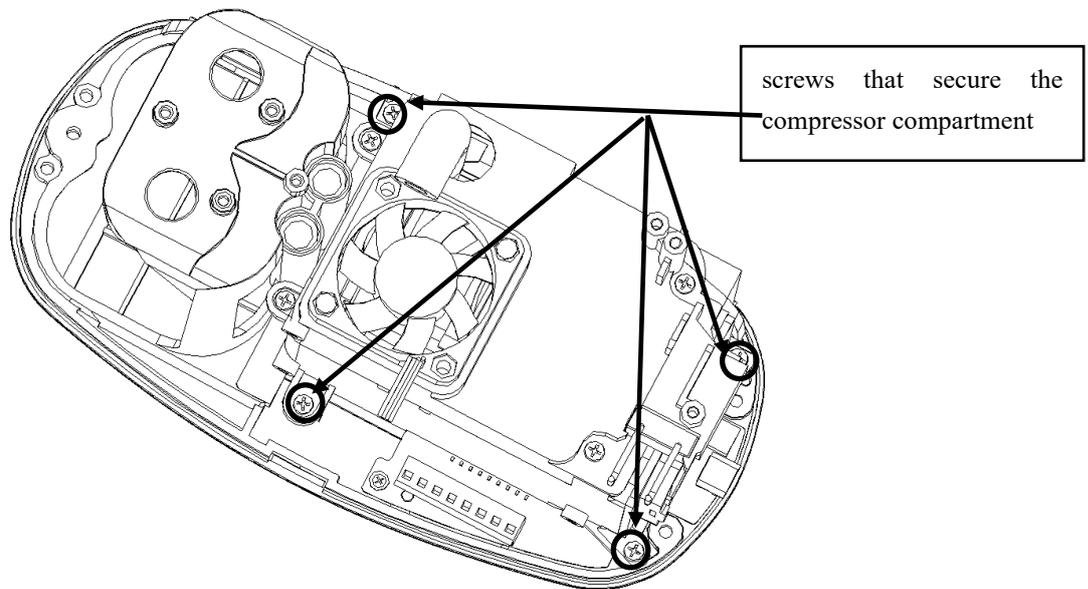

Figure 19 Replace the compressor compartment
1. Use a cross-head screwdriver to unscrew the four screws that secure the compressor compartment, and remove the compressor compartment (Refer to Figure 19).